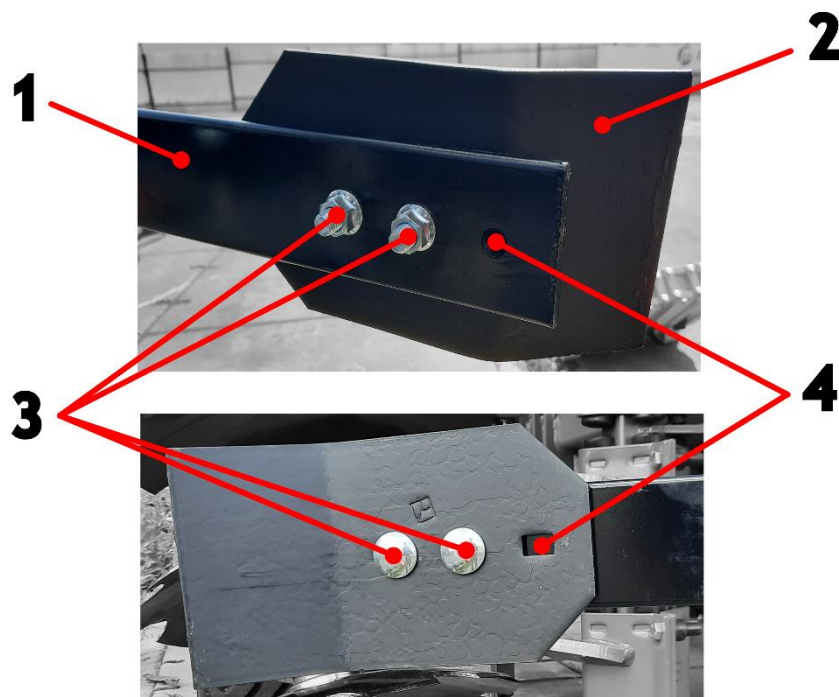

Figure 54 SKAN Harrow Tooth (1 - Harrow, 2 - Tooth, 3 - Mounting Bolts with Nuts, 4 - Adjustment Holes)
- Unscrew the mounting bolts (Fig. 54, item 3)
- Position the tooth in the new setting by sliding it onto the available holes (Fig. 54, item 4)